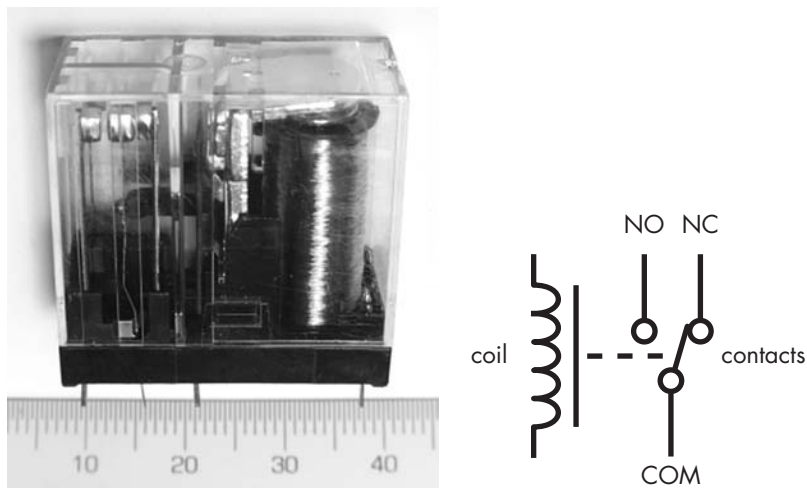

Figure 3-18: Inside a typical relay
*Relays* are used for the same reason as transistors—to control a much larger current and voltage. A relay has the advantage of being *electrically isolated* from the control circuit, which allows the Arduino to switch very large currents and voltages. Isolation is sometimes necessary to protect circuits from these very large currents and voltages, which can damage an Arduino. Inside the relay is an interesting pair of items: mechanical switch contacts and a low-voltage coil of wire, as shown in Figure 3-18.